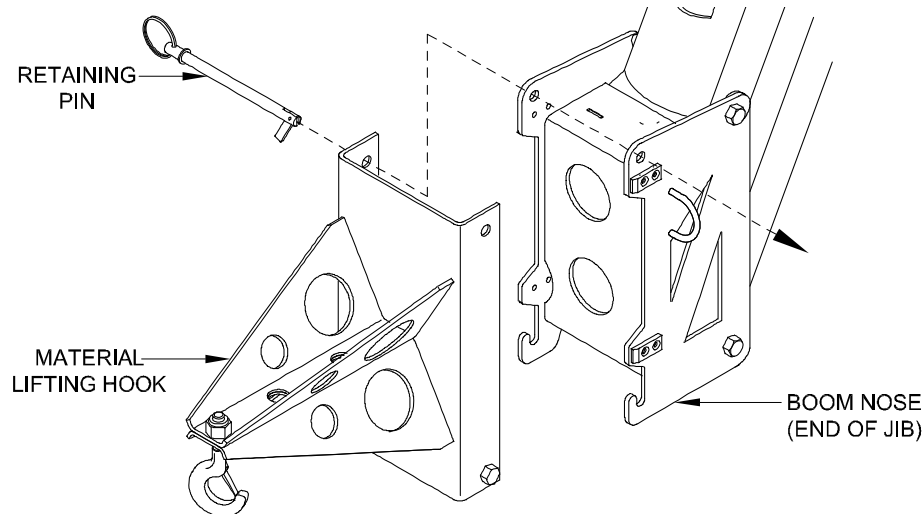

Figure 7-2 Material Lifting Hook Installation
- Attach the material lifting hook to the mounting bracket on the boom nose and insert the retaining pin (Figure 7-2)